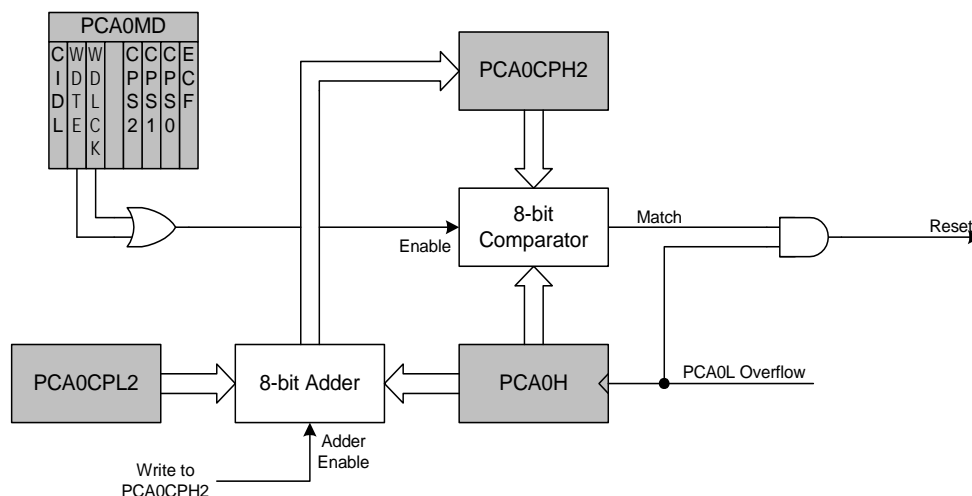

Figure 16.10. PCA Module 2 with Watchdog Timer Enabled
While the WDT is enabled, writes to the CR bit will not change the PCA counter state; the counter will run until the WDT is disabled. The PCA counter run control (CR) will read zero if the WDT is enabled but user software has not enabled the PCA counter. If a match occurs between PCA0CPH2 and PCA0H while the WDT is enabled, a reset will be generated. To prevent a WDT reset, the WDT may be updated with a write of any value to PCA0CPH2. Upon a PCA0CPH2 write, PCA0H plus the offset held in PCA0CPL2 is loaded into PCA0CPH2 (See Figure 16.10).